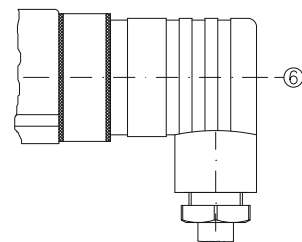

Fig. 12
- ↪ Plug the cable socket ② on the connector ① and tighten the central screw ⑥ (⇒ Fig. 12).